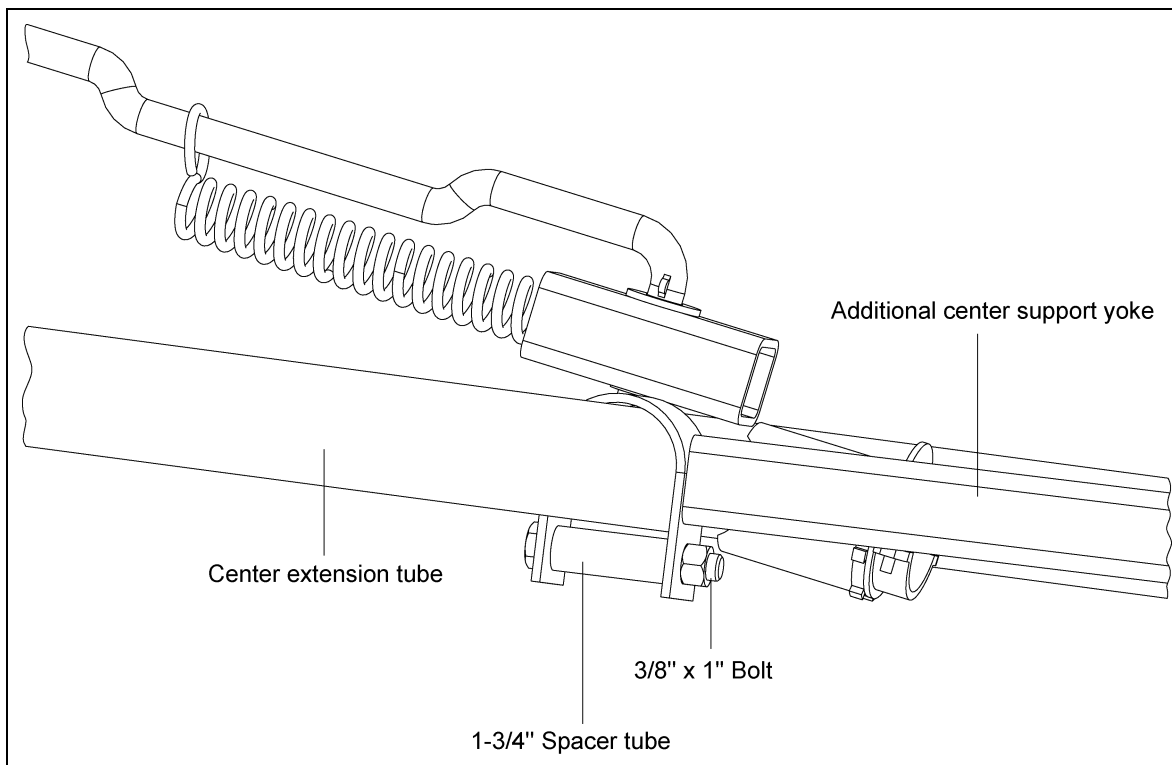

Figure 4V
2. 36' and larger units have an additional center support yoke. Attach the top end of the support yoke to the center extension tube using a 1-3/4" spacer tube, one 3/8" x 2-1/2" hex head bolt and hex lock nut. Locate approximately 4" from wire support swing arm toward the outboard end side. (See Figure 4V.)